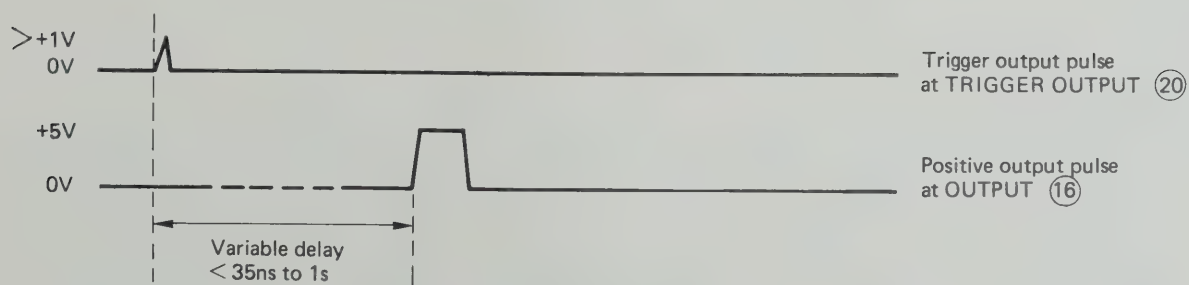

Figure 3-12. Output pulses in normal manual trigger mode
3-27 The output pulses should appear at the TRIGGER OUTPUT (20) and OUTPUT (16) connectors as shown in Figure 3-12.